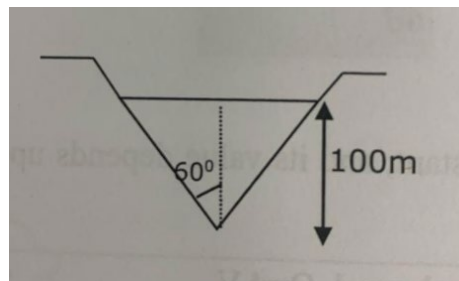

Figure B3(b) : Triangular Open Channel
- (b) Calculate area (A), wetted perimeter (P) and hydraulic radius (R) for the section of open channel as shown in Figure B3(b).